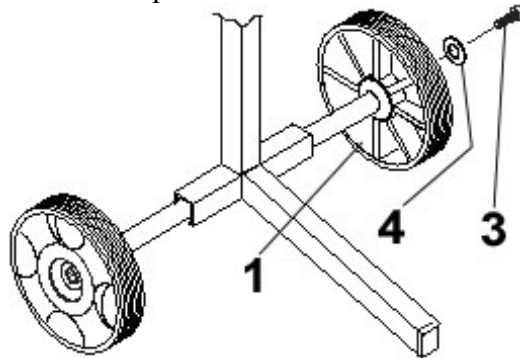

Fig. 16
- 5 Once the axle has been fixed proceed and install the other one (fig. 16).